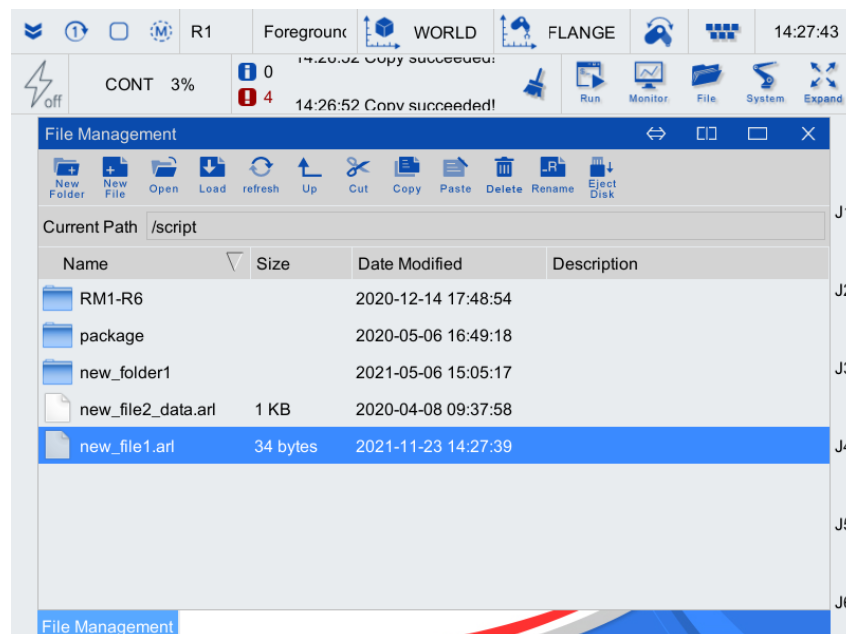

Figure 4-1 File management interface
- Step1. Click [File / File Management] in the main interface to enter the [File Management] interface, and click <New File> to create an .ARL program. As shown in Figure 4-1.